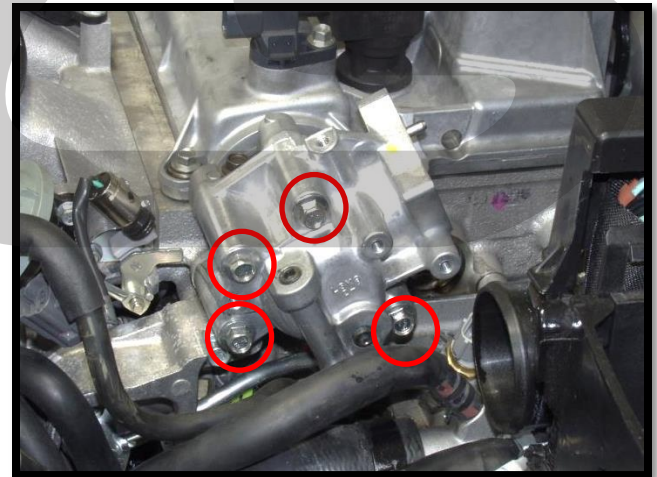

Figure 1m
u) **Remove the fuel pump lifter housing.** Use a 10mm socket wrench to remove the four (4) screws (red circles in Figure 1m) and pull the lifter housing off the engine.